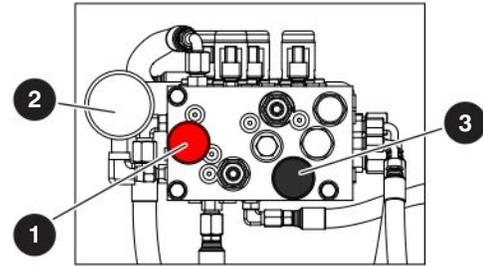

*Figure 29 Drive bypass valve*
4. Push in black brake valve plunger (item 3 - Figure 29).